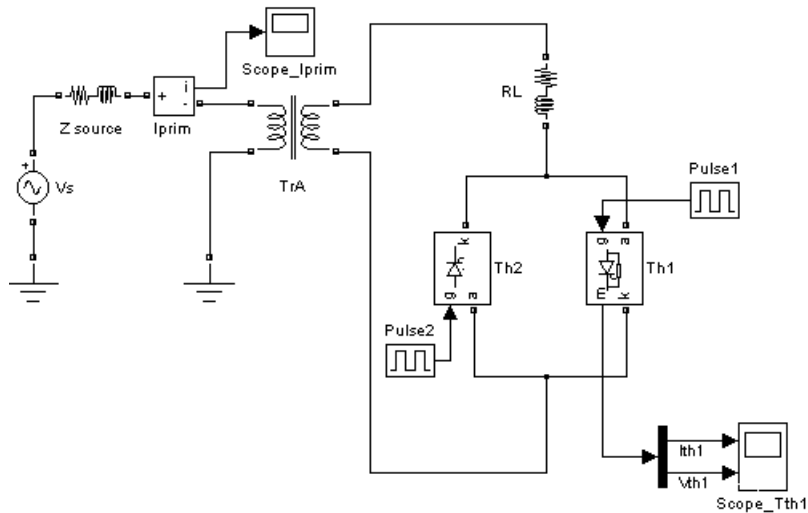

Figure 2-2: Simulation of the TCR Branch
- 5 Connect this new thyristor Th2 in antiparallel with Th1, as shown in Figure 2-2.
Add a voltage source, series RL elements, and a Ground block. Set the parameters as shown in Figure 2-1. Add a current measurement to measure the primary current. Interconnect the circuit as shown in Figure 2-2.